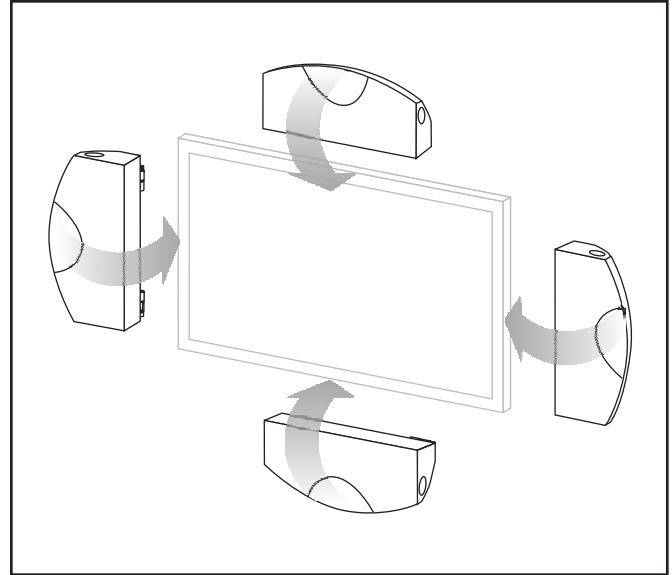

Figure 24. Rotate the Vignette into position and tighten the cap nuts.
- 12 Rotate the Vignette to point at the listening position and tighten the cap nuts (see figure 24).